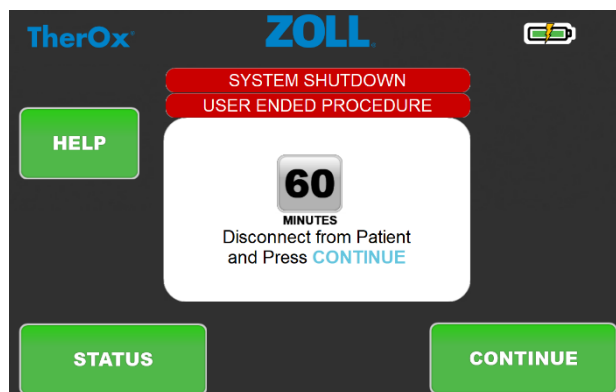

Figure 20. Screen Display Continue Button
4. The display will change to a screen that prompts the operator to disconnect from the patient and to press the 'CONTINUE' button when finished. See **Figure 20**.